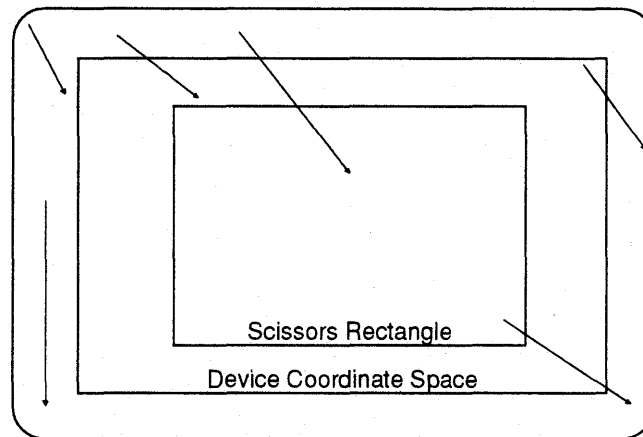

Figure 9-7. Exception generating patterned lines.
2. Exception Lines— are lines wholly or partially outside the device coordinate space. All lines shown in figure 9-7 generate exception conditions. The host processor is required to fully clip these lines to the device coordinate space. The patterned linedraw algorithm then attempts to draw these lines and update the PATTERN_INDEX counter.